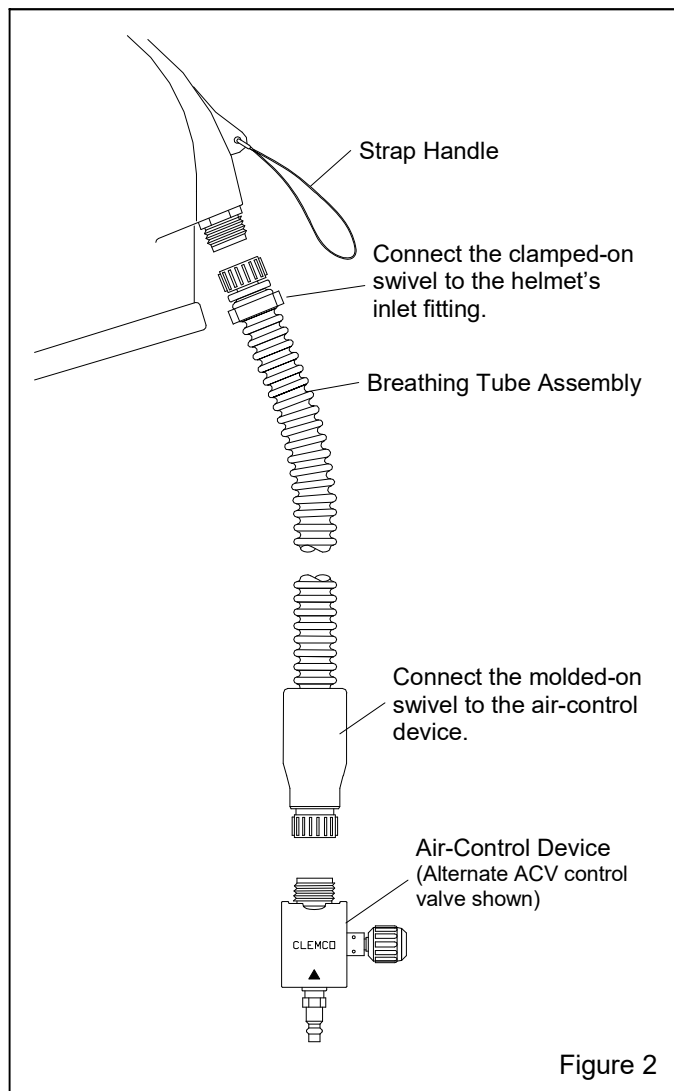

Figure 2
3.3.1 The breathing tube has a clamped-on end and a molded-on end. Attach the clamped-on end to the threaded air-inlet fitting at the back of the helmet as shown in Figure 2. Do not over-tighten; hand-tight is sufficient.